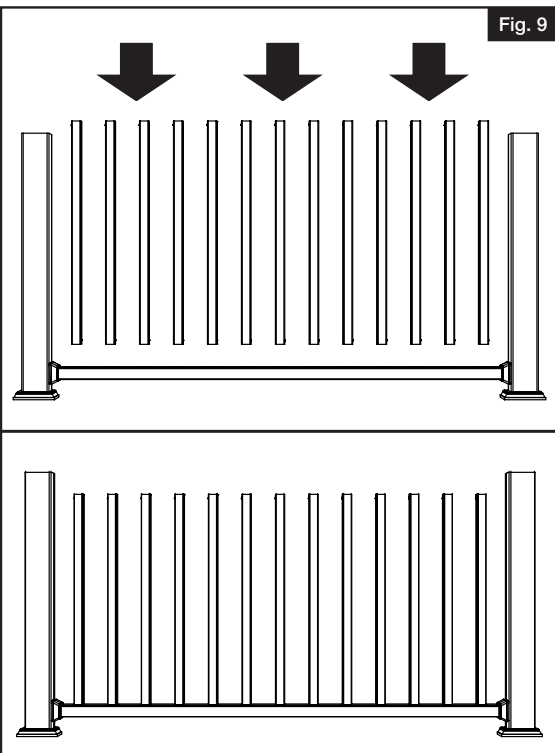

Fig. 9
- Push all balusters into bottom rail (Fig. 9).